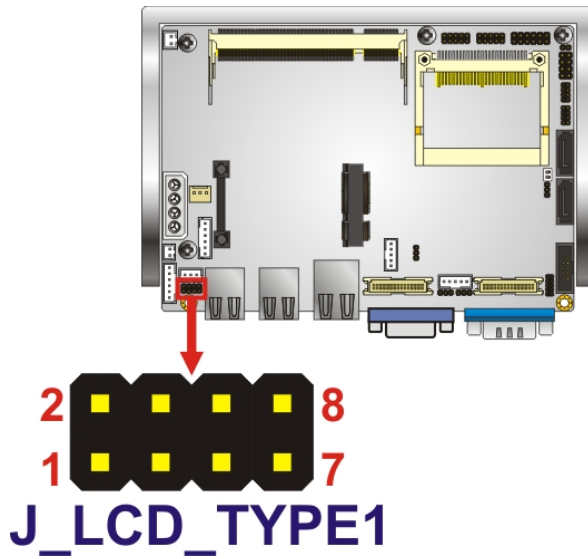

Figure 4-8:LVDS Panel Resolution Jumper Pinout Locations
- Jumper Location:** See Figure 4-8
The LVDS Panel Resolution jumper location. is shown in Figure 4-8.